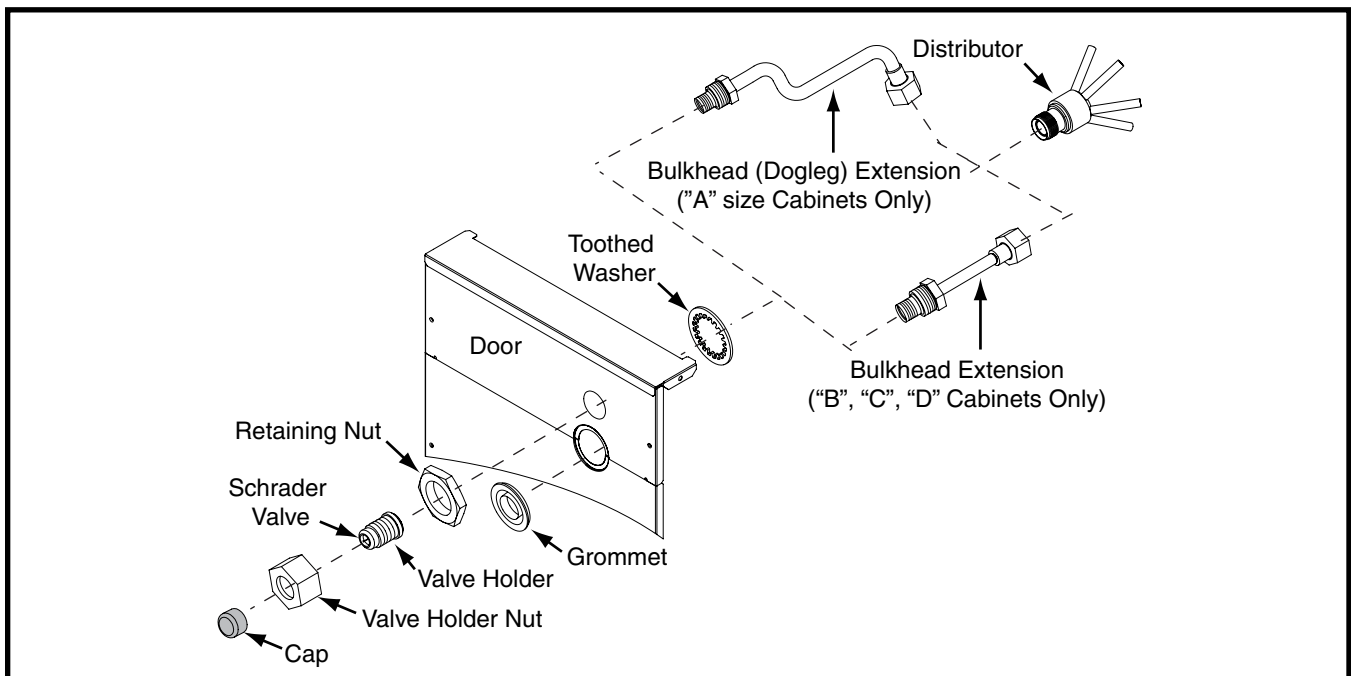

Figure 4. C6 Coil Assembly As Shipped
1. Remove the cap (Figure 4, page 4) from the valve holder.
6. Remove the retaining nut securing the dogleg or bulkhead extension to the case (See Figure 4). Keep the retaining nut for future use.